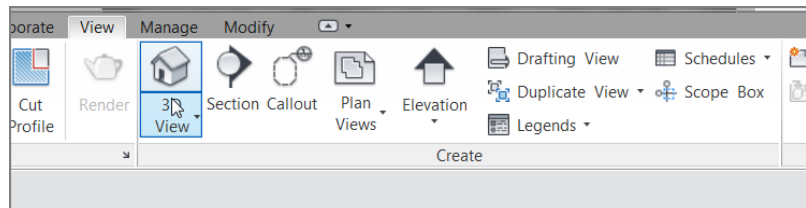

FIGURE 1.39: The 3D View icon will be used heavily.
1. Click the 3D View icon, as shown in Figure 1.39.